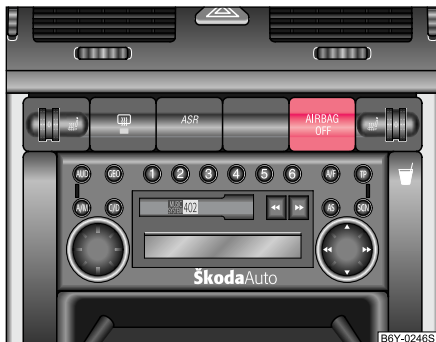

Fig. 106 Indicator light for a switched off front seat passenger airbag
- Check whether the airbag indicator light **AIRBAG OFF** in the middle of the dash panel lights up ⇒ fig. 106 when the ignition is turned on.
The airbag indicator light in the middle of the dash panel does not light up ⇒ page 128, fig. 106.